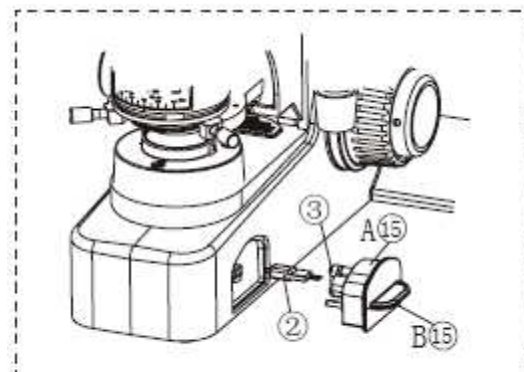

Fig. 5
2.2.1 Attaching/Replacing the Halogen Bulb(② in Fig.5)
a) Grip the Grip(B₁₅ in Fig.5) of the bulb drawer and pull out the bulb drawer (on the right side of the microscope base, A₁₅ in Fig.5).
d) Hold the new bulb with gloves or a piece of gauze, insert the bulb pins and fully into the pin sections on(③ in Fig.5) the bulb socket.